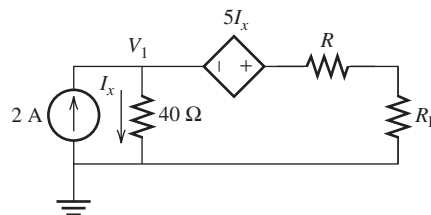

FIGURE P3.74 Circuit for Problem 3.74.
3.74 (A)* Find the value of R where R_L equals 50 Ω and draws the maximum power in Figure P3.74.